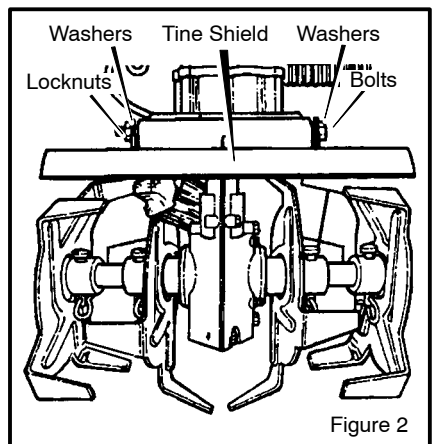

Figure 2
2. Remove the **locknuts, washers, and screws from the tine shield** (see Figure 2).